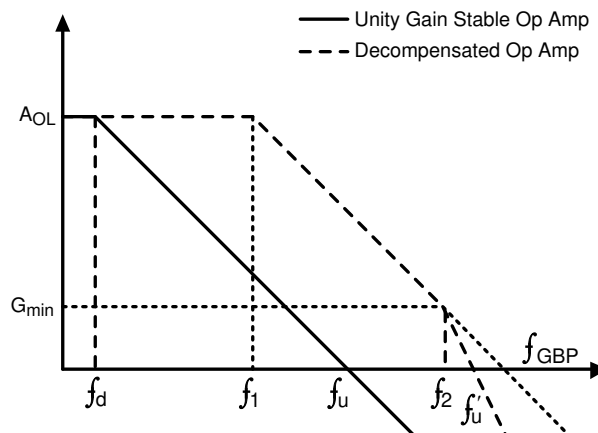

Figure 6-2. Gain vs Frequency Characteristics for a Unity-Gain Stable Op Amp and a Decompensated Op Amp
As shown in Figure 6-2, the dominant pole of a unity-gain stable amplifier, f_d , is moved to the frequency f_1 in the case of a decompensated op amp. The solid A_{OL} plot is the open-loop gain plot of a traditional unity-gain stable op amp. The change in internal compensation in a decompensated amp such as the OPAx371D increases the bandwidth for the same amount of power. Besides the advantages in the above mentioned parameters, an increased slew rate and a better distortion value is achieved because of the higher available loop-gain, compared to the unity-gain counterpart. The most important factor to consider is verifying that the op amp is in a noise gain (NG) greater than G_{min} . A value of NG lower than G_{min} results in instability, as shown in Figure 6-2, because the $1/\beta$ curve intersects the A_{OL} curve at 40dB/decade. This method of analyzing stability is called the *rate of closure method*. See TI precision labs for a better understanding on device stability and for different techniques of providing stability.